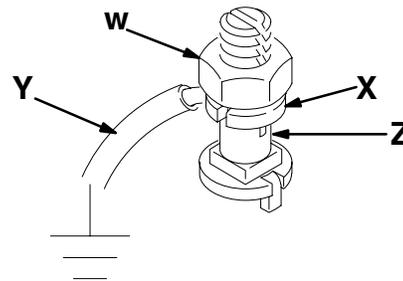

Fig. 2
1. *Pump*: connect a ground wire and clamp to a true earth ground as shown in Fig. 2.
- a. Loosen the grounding lug locknut (W) and washer (X).
- b. Insert one end of a 1.5 mm2 (12 ga) minimum ground wire (Y) into the slot in lug (Z) and tighten the locknut securely.